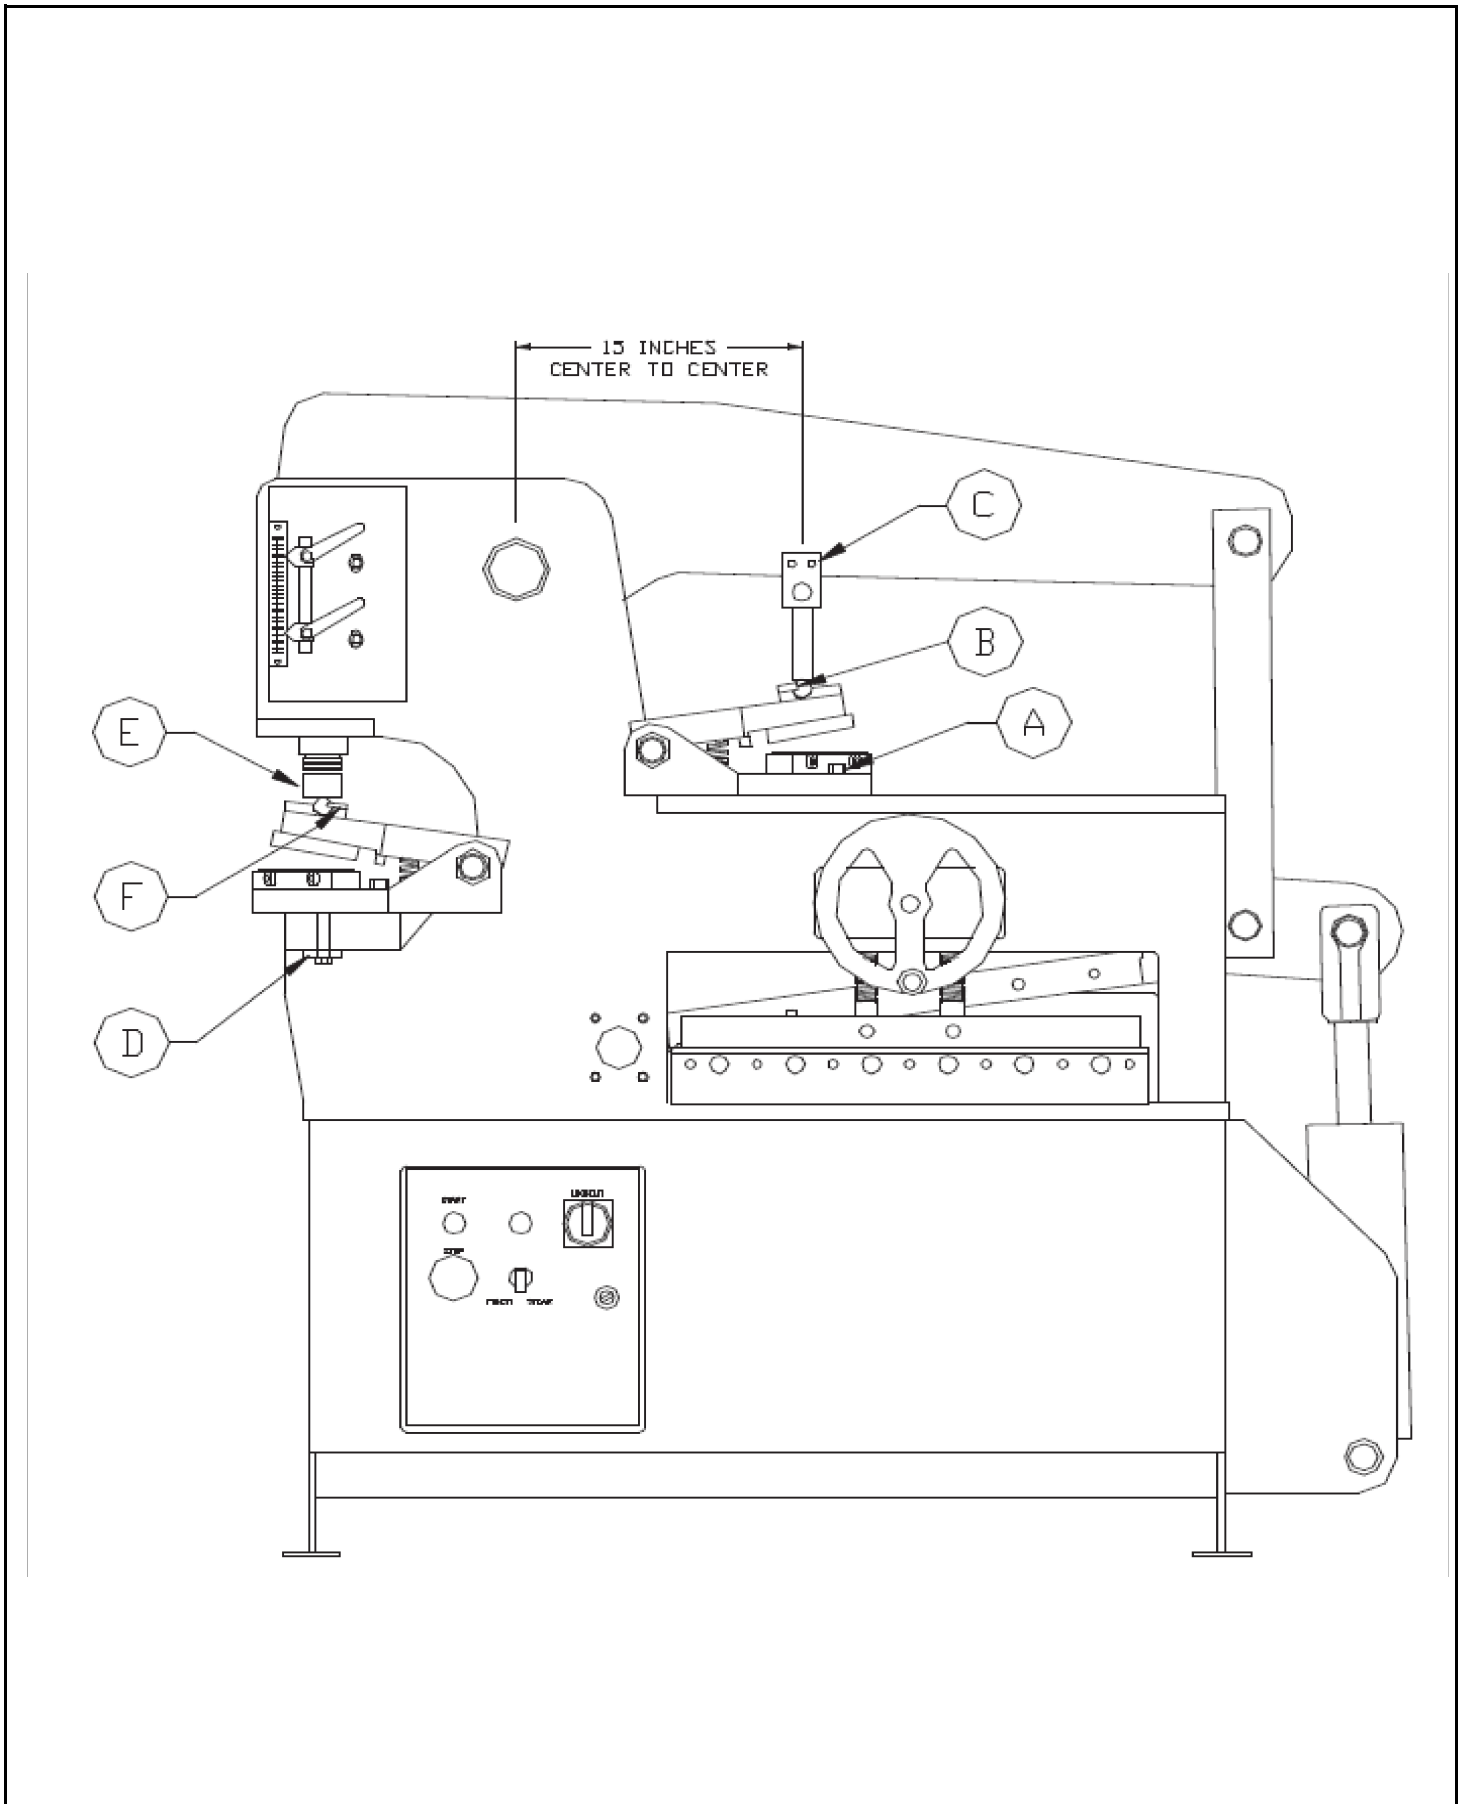

FIGURE 16
SEE FIGURE 16 ON THE FOLLOWING PAGE.
To install the notcher under the upper arm, the tool should be mounted as close to the frame as possible and anchored with the bolts (A) provided. The pusher (B) and beam block (C) should be installed per the dimensions in FIGURE 16.
To mount the notcher in the punch station, remove the die holder and stripper. Mount the notcher, using the heavy washer and bolt (D) provided. SEE FIGURE 16. Line the pusher up to the punch ram and tighten the mounting bolts. After the notcher is mounted, install the neo-prem slug pad.